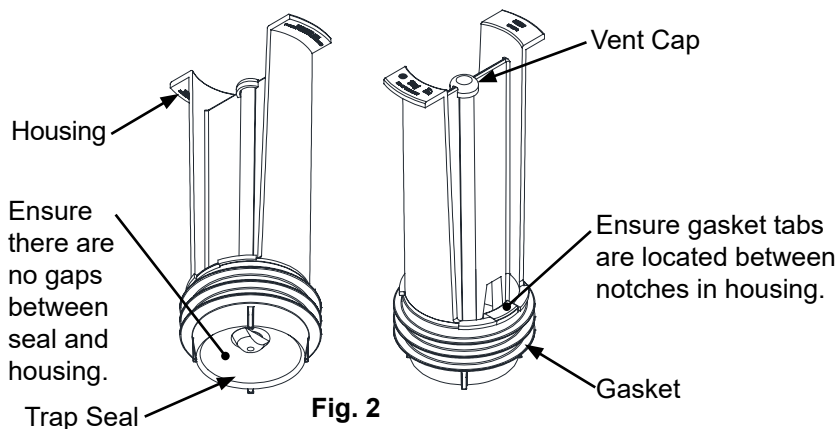

Fig. 2
2. Ensure ZPTSP is properly assembled. See Fig. 2.
5. Look into the outlet with a light to verify the trap seal is not wrinkled. See Fig. 2 for proper orientation.
Caution: When removing ZPTSP for maintenance, do not grab device by the vent cap. Also, make sure to remove device from outlet slowly to prevent gasket from falling into outlet. See Fig. 2.